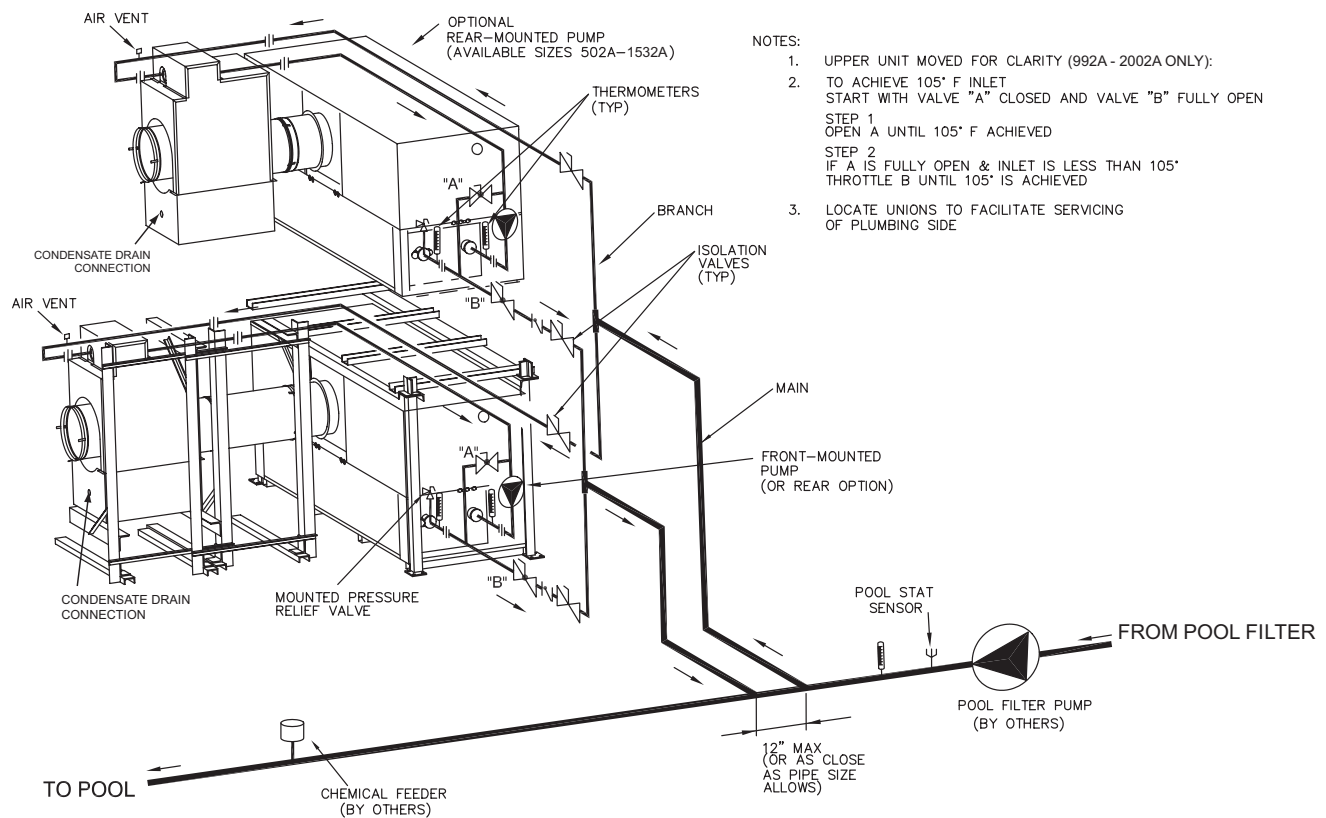

Fig. 33: Dual Heaters - Pool System Primary/Secondary with Bullhead Tee and Stacked Rear-Mounted CHXs
2. Remove the intake top as shown in Figure 33. Insert a putty knife between the mating surfaces where the Hi-Temp RTV is visible. Clean the hardened RTV with a wire brush. Vacuum all the debris to avoid clogging the condensate drain and piping.